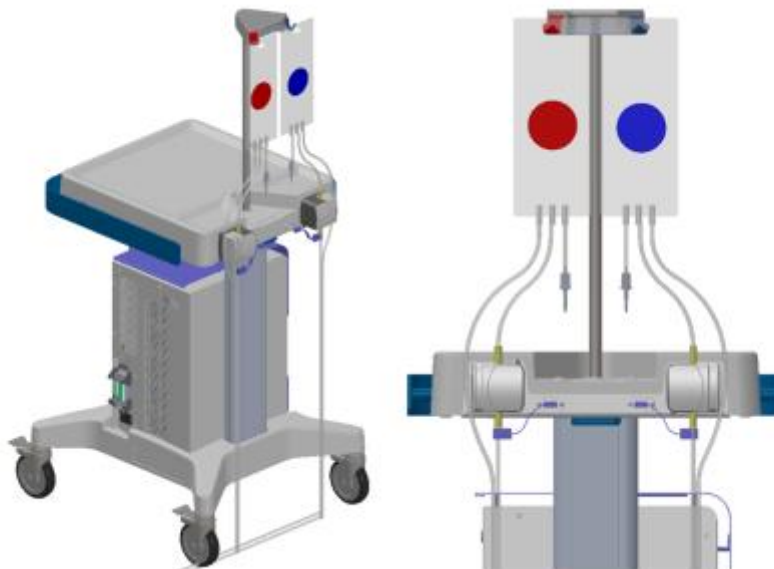

Figure 3: Preparing the system cart and fluid tube sets
- f. Hang the ECD reservoir bag on the blue weight sensor hook on the System Cart (*Figure 3*).